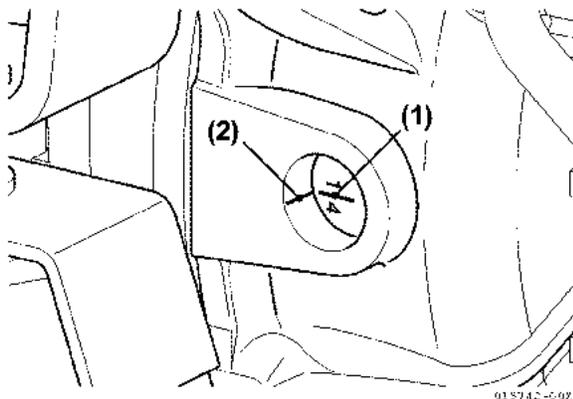

Figure 6-60
8. Highlight the timing reference mark (Figure 6-60, (2)) on the flywheel housing. Highlight the TDC mark (Figure 6-60, (1)) on the flywheel.